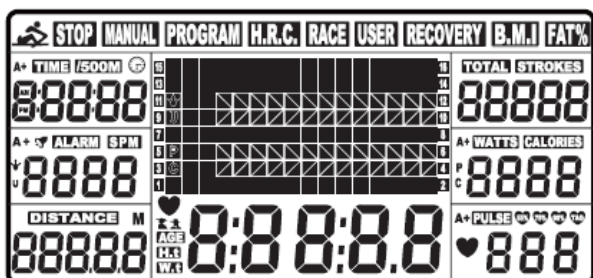
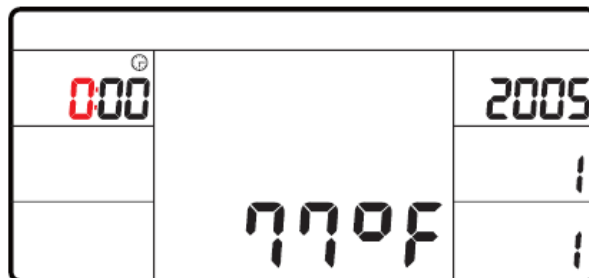

Fig. 1
Fig. 2
1. Install 2 AA batteries (included) and computer will beep for 2 seconds (Fig.1). Then, the computer will enter into the CLOCK & CALENDAR MODE (Fig.2).